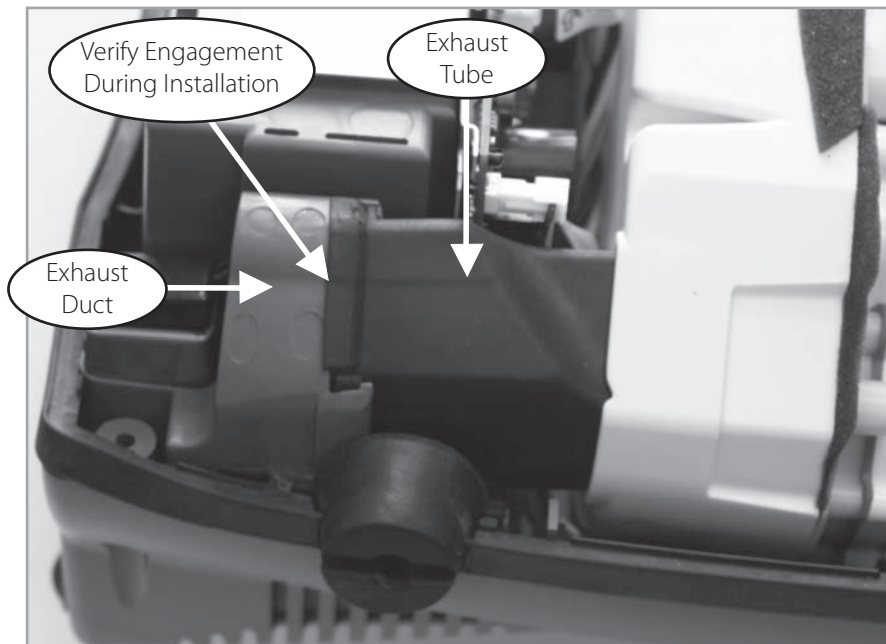

Figure 57: Exhaust Tube Removal.
4. Remove the Exhaust Tube as shown in Figure 57.
12. Hold onto the Compressor Box and lift the Bottom Case into a standing position. Insert the Exhaust Tube into the slot of the Exhaust Duct as shown on Figure 57. Ensure that it is secure without any gaps.